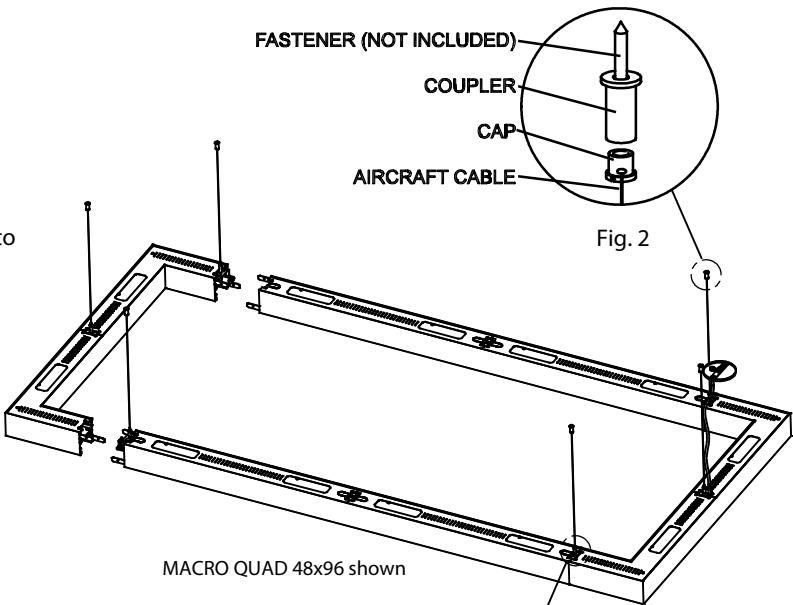

Fig. 2
2. Pass the aircraft cables through the caps (Fig. 2).
1. Mount the couplers to the ceiling using appropriate fasteners (not included) according to the structure of the ceiling (Fig. 1, Fig. 2 and Table 1).